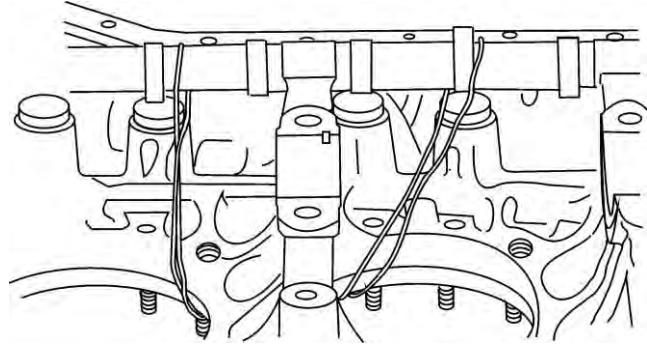

Figure 67
- (6) Tie a loop of soft wire around the camshaft and left crankcase half (as shown in Figure 67) to hold the camshaft securely in place.